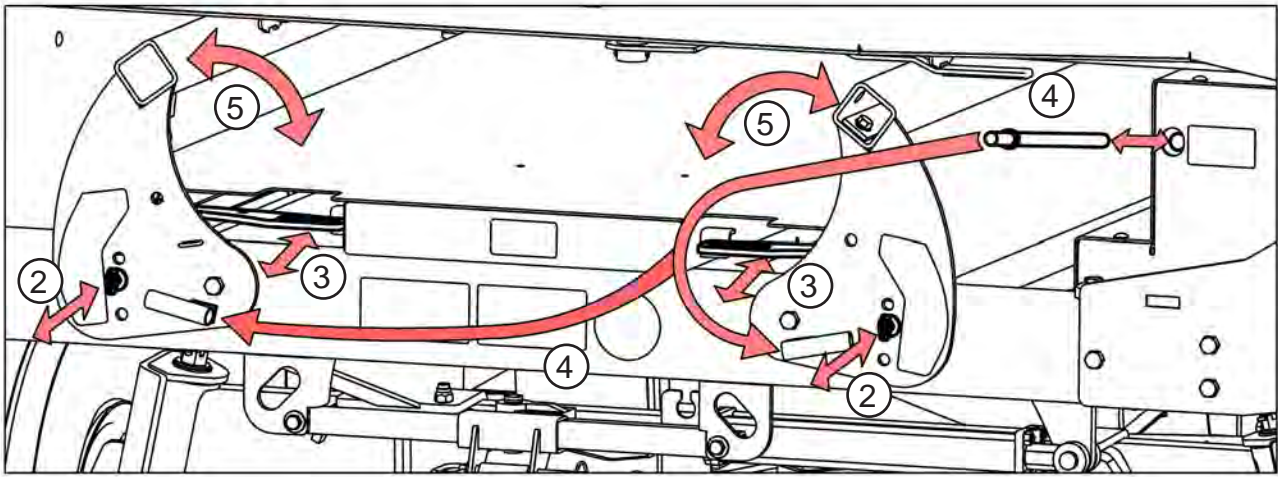

Fig.1
2. Pull pins out of current bale saddle positioning holes. See Fig.1.